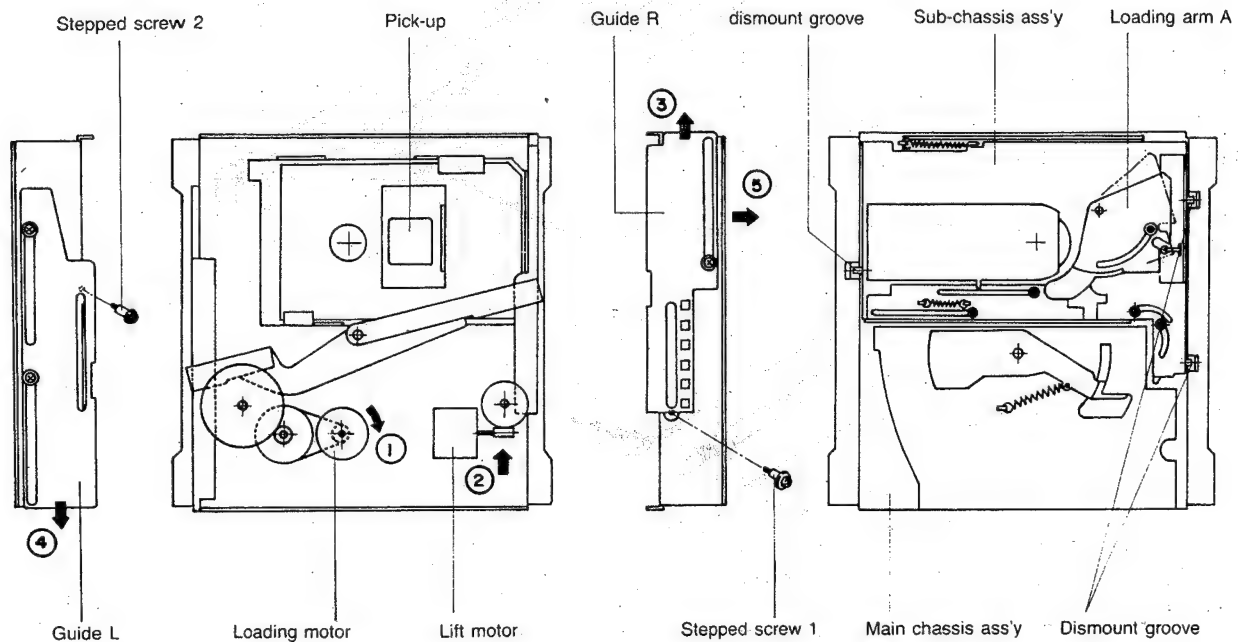

Fig. 1 Removing the sub-chassis
- 1) Make sure that the loading arm A is at the position of the continuous line shown in Fig. 1 (initial state). If the arm is at a position other than the initial stage (the position of the alternate long and two short dashes line for example.) turn the loading motor in arrow ① direction until loading arm A comes to the position of the initial state.
- 2) Remove the stepped screws 1 and 2. Then keep turning the lift motor in arrow ② direction to the point where the dismount grooves of guide R and L come to the dismount groove of the main chassis.